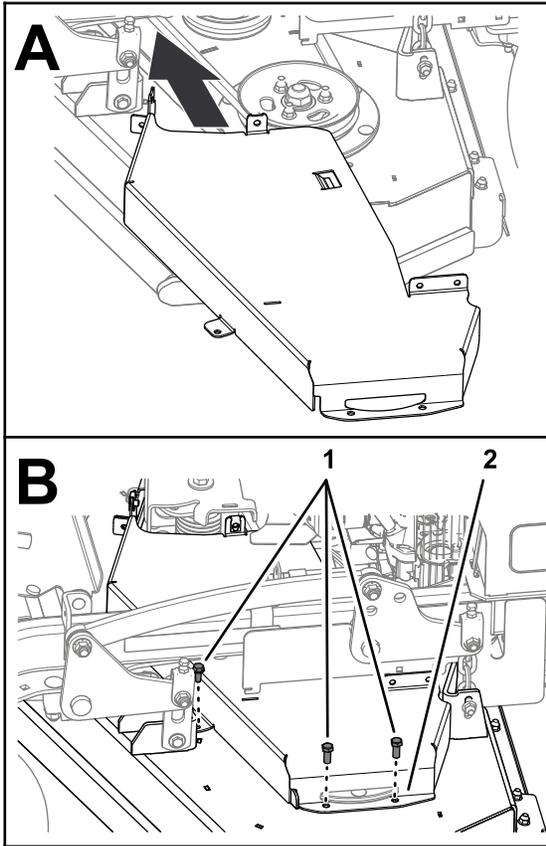

Figure 42
1. Assemble the left belt cover to the deck (Figure 42) with the 3 bolts that you removed in Removing the Left Belt Cover (page 28).